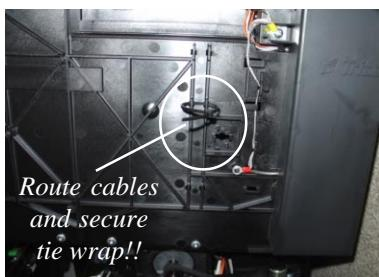

Figure 10. Cable tie wrap location for TDM-150 (side of dispenser).
9. **(For TDM-150)** Route the serial communications cable and power cable through the tie-wrap loop located on the side of the dispenser shown in Figure 10. Continue to route cables through second tie wrap as shown in Figure 11. Plug the data cable into jack J11. Plug the DC power connector into jack J12 (Figure 11). **Pull both tie wraps to secure cables to dispenser.**